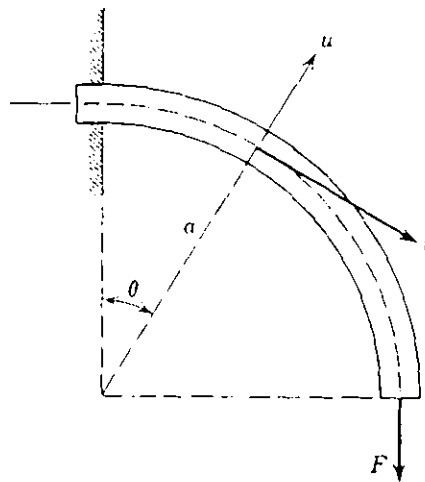

Figure 3
- (40) 3. A curved cantilevered beam is shown in Figure 3. The Total Potential Energy for this problem is